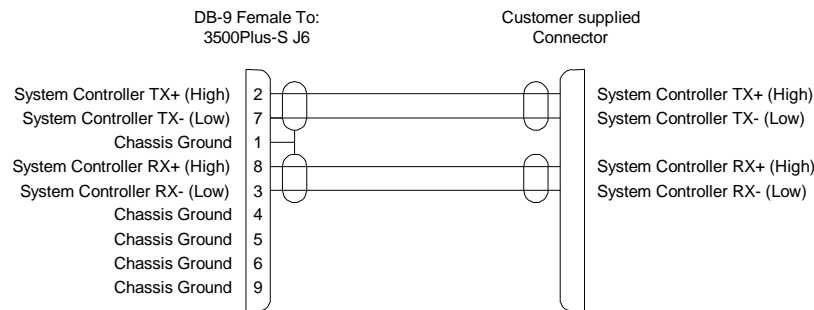

Figure 26: 3500Pro-S RS-422 CPU Link Cable
- COM 4 is an RS-422 CPU Link and may be connected to a PC with the 3500Pro software installed. The cable may be up to 4000 feet in length and an RS-422 interface card must be installed in the PC. COM 4 may be used with any of the protocols shown in Figure 26 on the next page. If necessary, a cable may be fabricated in the field as shown in Figure 26.